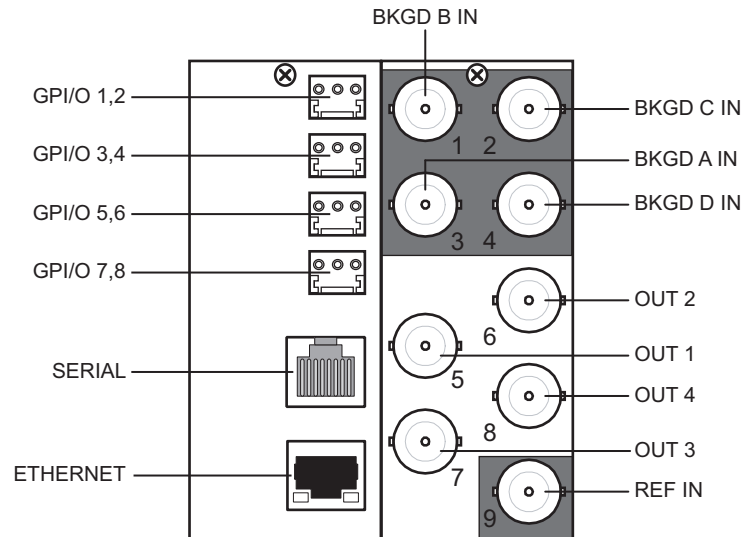
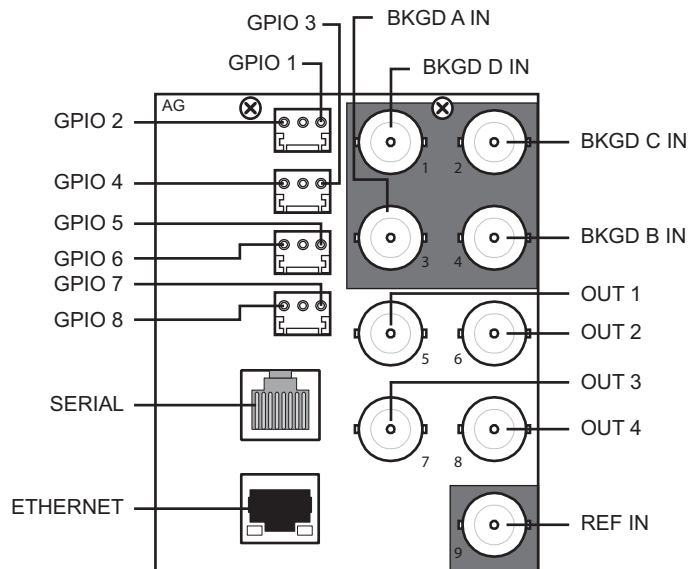

Figure 2.5 8320AR-033 Cable Connections
Figure 2.6 8320AR-061 Cable Connections
This section provides general instructions for video input and output cabling the rear module for the cards. Refer to **Figure 2.5** or **Figure 2.6** and the rear module label(s) for cabling designations.
2. If you wish to use a local reference input, connect the reference input source to the **REF IN** connector on your rear module. Refer to **Figure 2.5** or **Figure 2.6** for locations.
2. Connect and secure the RJ-45 connector of the **Serial Interface Cable** to the **Serial** port on the rear module. (**Figure 2.5** or **Figure 2.6**)
2. Connect the card to the same subnet as your DashBoard computer or to a network that has a route to the network your DashBoard computer is on. Refer to **Figure 2.5** or **Figure 2.6** for the **Ethernet** port location on the rear module.
The MDK-111A-K includes eight General Purpose Input (GPI) and Tally pins to interface with external equipment. There are eight bi-directional pins labeled GPI/O 1-8 on the terminal block of the rear module. (**Figure 2.5** or **Figure 2.6**) Ports are user programmable to be either an input (GPI) or an output (Tally) using the **GPI/Tally Setup** tab in DashBoard. Electrically, the ports are setup for contact closure to ground, with 1Kohm pull-up resistor to +5V, so they default to a logical high state.
1. Locate the GPI/Tally ports on the rear module. Refer to the rear module labeling, and **Figure 2.5** or **Figure 2.6** for locations.
2. Connect and secure the RJ-45 connector of the Serial Interface Cable to the **Serial** port on the rear module. (**Figure 2.5** or **Figure 2.6**)